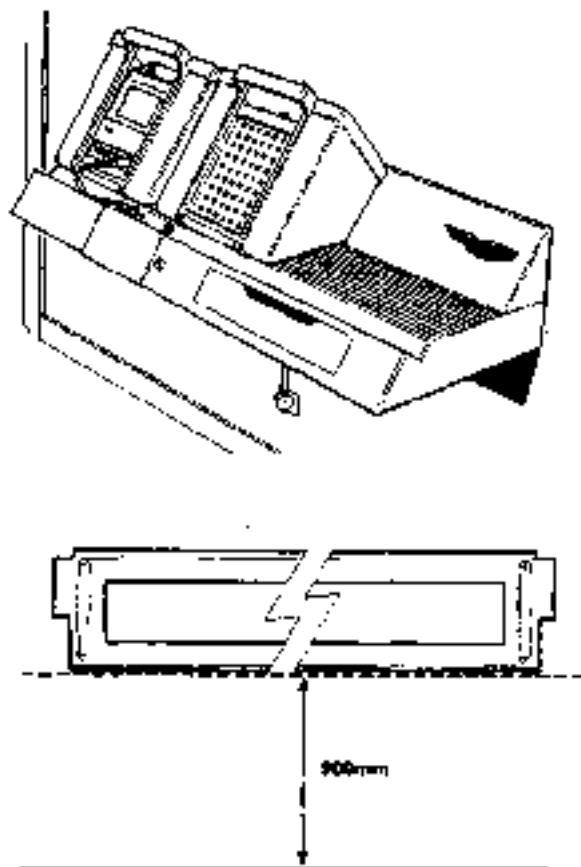

Figure 3. Wall Mounted installation
It is recommended that the base station is wall mounted (Fig 3). Alternatively it may be mounted on a bench. The base station houses the CD-ROM drive and power supplies.
2. Mark a horizontal line on the wall 900mm above the floor (Fig 3)